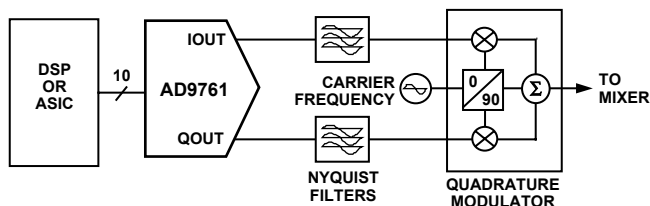

Figure 29. Typical Analog QAM Modulator Architecture
QAM is one of the most widely used digital modulation schemes in digital communication systems. This modulation technique can be found in both FDMA as well as spread spectrum (i.e., CDMA) based systems. A QAM signal is a carrier frequency which is both modulated in amplitude (i.e., AM modulation) and in phase (i.e., PM modulation). At the transmitter, it can be generated by independently modulating two carriers of identical frequency but with a 90° phase difference. This results in an inphase (I) carrier component and a quadrature (Q) carrier component at a 90° phase shift with respect to the I component. The I and Q components are then summed to provide a QAM signal at the specified carrier or IF frequency. Figure 29 shows a typical analog implementation of a QAM modulator using a dual 10-bit DAC with 2× interpolation, the AD9761. A QAM signal can also be synthesized in the digital domain thus requiring a single DAC to reconstruct the QAM signal. The AD9853 is an example of a complete (i.e., DAC included) digital QAM modulator.